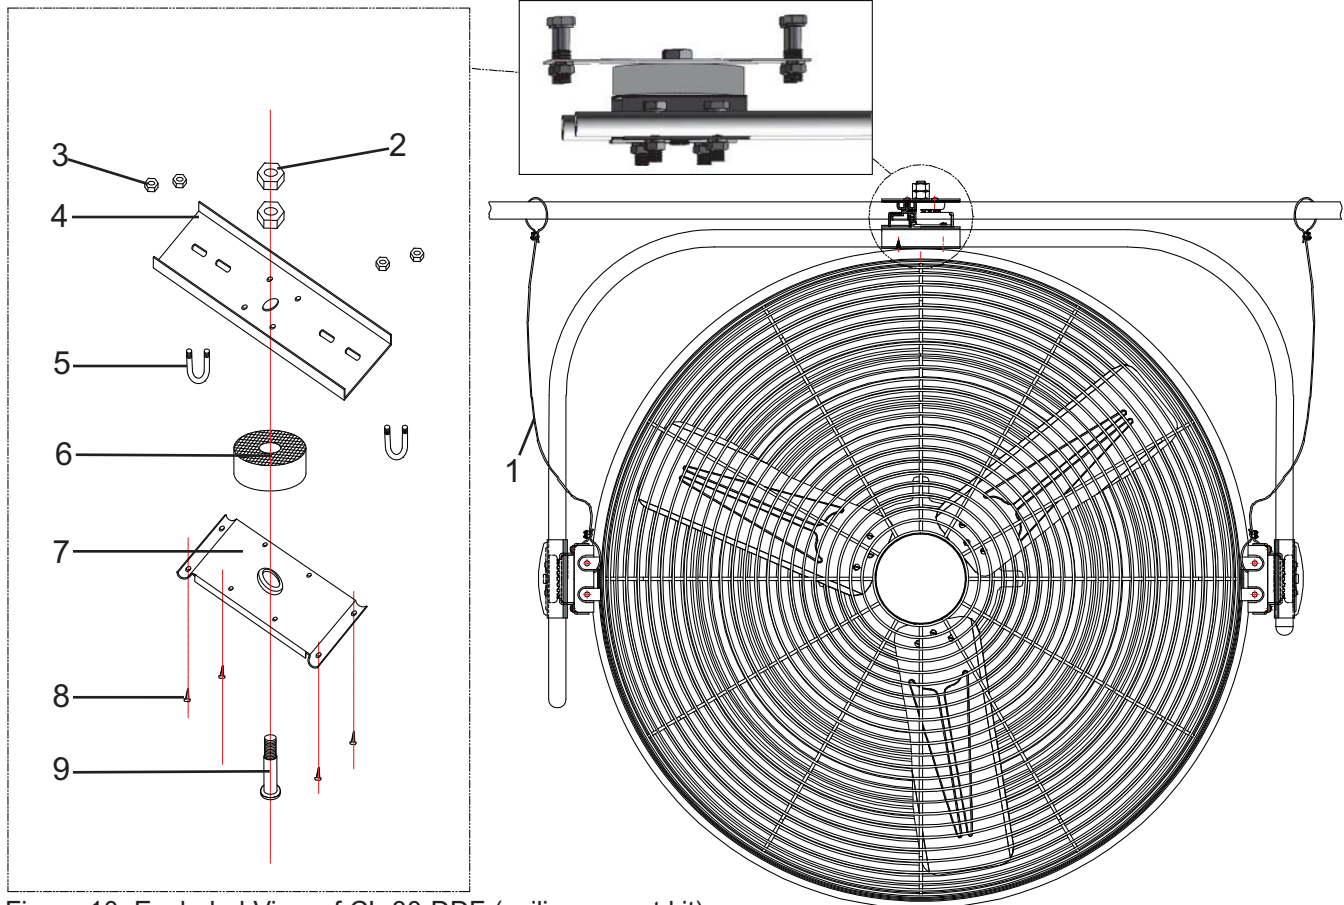

Figure 10: Exploded View of CL-30-DDF (ceiling mount kit)
1. Remove Wheel Frame (item 15 on page 8).
2. Attach Cart Frame to Ceiling beam using U-bolts (item 5 on page 10).
3. Assemble and attach Ceiling Mount Assembly as shown in figure 10 on page 10.